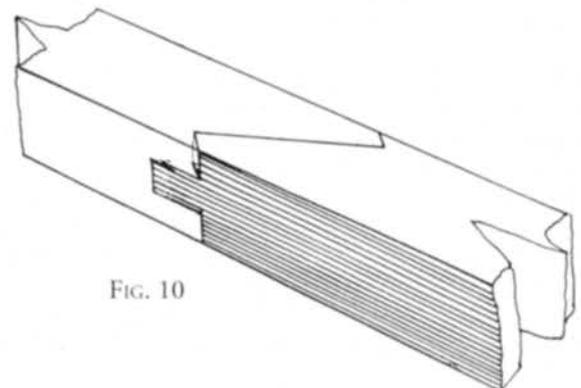
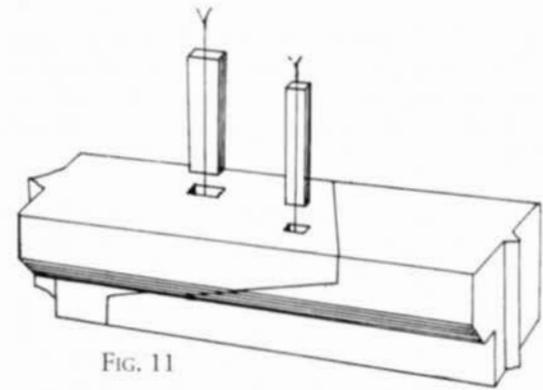
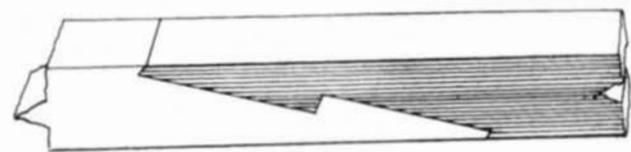

FIG. 10
FIG. 11
FIG. 15
HARLOWBURY HALL, Harlow, Essex. Between 1135 and 1180 this manor was held by the de Harlow family, after which it was taken in hand by Abbot Samson. The roof has passing braces and both open- and secret-notched laps for soulaces, all with refined angles of entry. The house has one carved capital which has been cut away and plastered over; some of the carving can be seen in Fig. 9. The two arcade plates have different scarfs. On the North are diagonal joints with tenons into splinted ends (Fig. 10) while on the South there are oblique butts between diagonal ledges with two keys (Fig. 11 next page).
IPPOLLITTS HALL, Almshoebury, Hertfordshire (6). Probably built by Simon Fitz Adam, "who held the manor of Almshoe of the tenants-in-chief, the Fitz Walters, and who settled it on his wife in 1241, this house was added, but two original principal posts are still there, with a piece of curved arch-brace and passing-braces. The roof has collar-beams with refined notched laps; the posts have three dog-teeth ornament remains (Fig. 14). This ornament was used during the Early English period, ca. 1150 to 1250. In the later east wing (added ca. 1350), one of the top plates has the scarf—quite rare—shown in Fig. 15. This joint was assembled sideways and is very early for its type. Splayed and tabled with under-squinted butts and five times longer than its thickness, this joint was cut with precision to produce a continuous top-plate, then mortised for posts and studs.
Among the scarfs we see some developments. The joint from Knights Templar, Temple Balsall (Fig. 4) shows the development of a table. At Tiptoft's Hall the earlier service wing had a series of changes from ca. 1181 to ca. 1348—about 168 years. Ippollits Hall shows very long splayed and tabled joints (Fig. 15) with under-squinted butts. The complete scarf (Fig. 20), adding a transverse key and pegged tongues, had a long use from Place House (ca. 1295), on. The scarf in Crepping Hall (Fig. 6) is a halved joint and pegged; the same was used in the Barley Barn and also at Lampett's Farm, Fyfield. The carpenters there apparently did not want a better joint; the design did not need it. The joint in the top-plate at Fyfield Hall (Fig. 3) is a scarf, but it doesn't fit into any developmental system. The two scarfs in Harlowbury Hall (Figs. 10 and 11) are interesting, but they are not good, only competent. And the south top-plate has its scarf upside down.